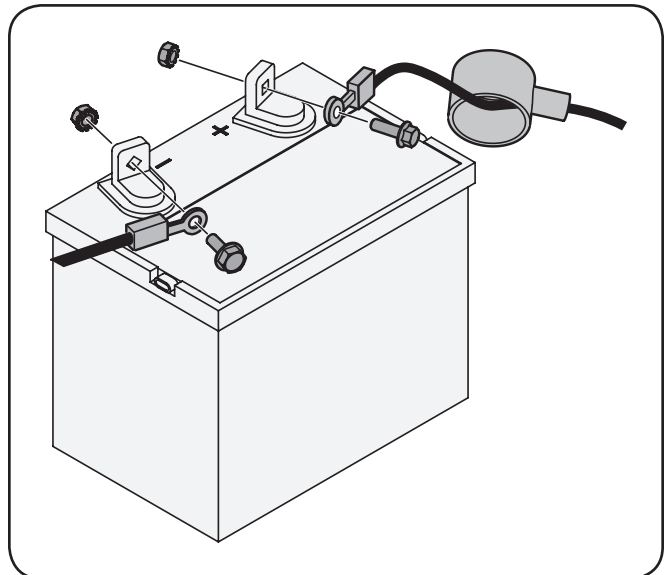

Figure 3-4
1. Remove the plastic cover, if present, from the positive battery terminal and attach the red cable to the positive battery terminal (+) with the bolt and hex nut. See Figure 3-4.
2. Remove the plastic cover, if present, from the negative battery terminal and attach the black cable to the negative battery terminal (-) with the bolt and hex nut. See Figure 3-4.